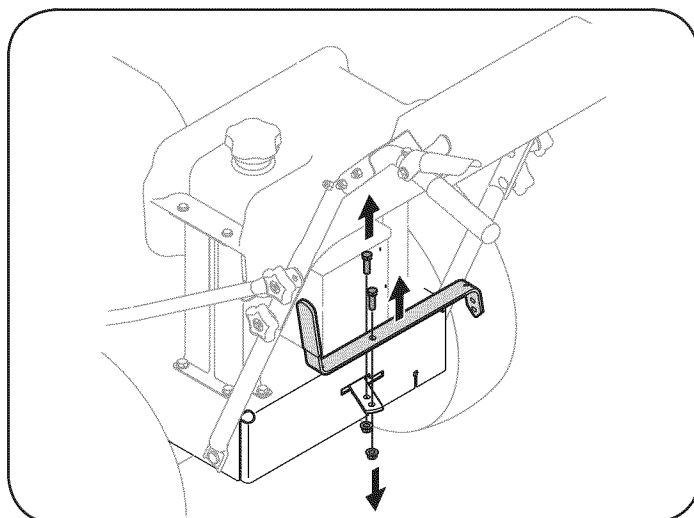

Figure 5
1. Remove the screw and the lock nut that secures the shift lever to the shift lever plate. See Figure 5.
2. Remove the remaining screw and nut from the lower shift lever plate. See Figure 5.